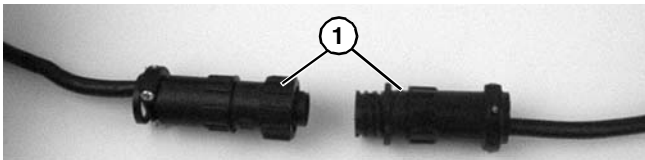

Figure 19
1. For DC variable speed motor, unplug motor cord at disconnect (**Figure 19, item 1**).